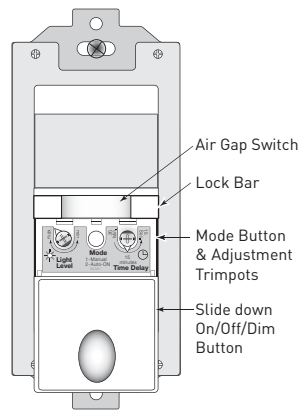

Fig. 5: Sensor Adjustment Controls
1. Push in the Air Gap Switch shown in Figure 5 so that it clicks and locks into a depressed position below the surface of the rest of the RD-200. This engages the Air Gap, which stops electricity from flowing to the connected load.